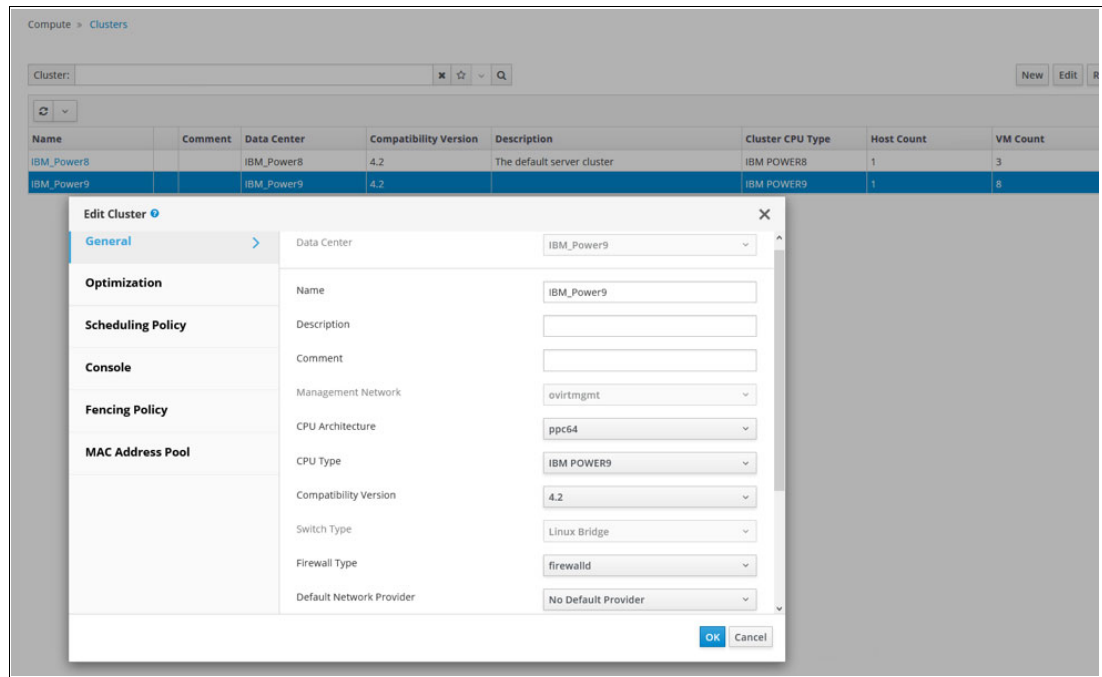

Figure 4-35 Compute Clusters window: Edit Cluster
1. Select **Compute** → **Clusters**, as shown in Figure 4-35.